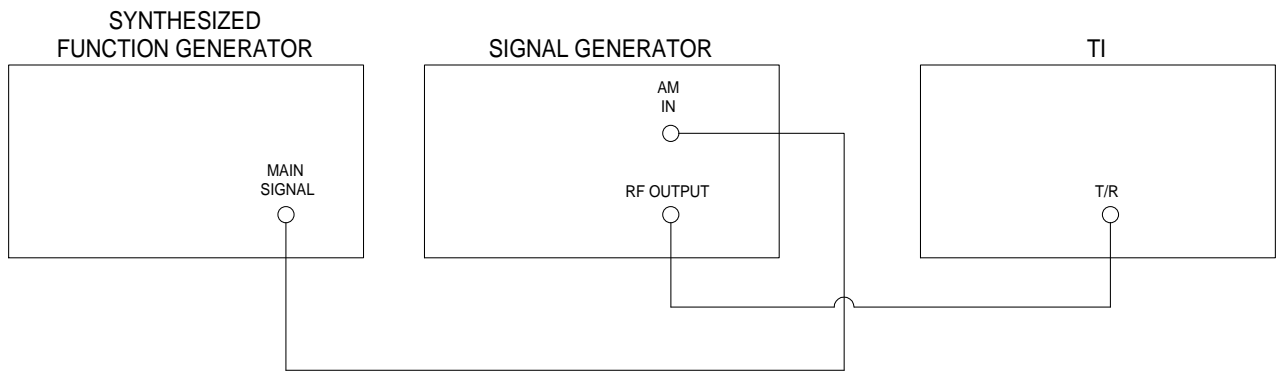

Figure 5.
4.16.2 Connect the equipment as shown in Figure 5.